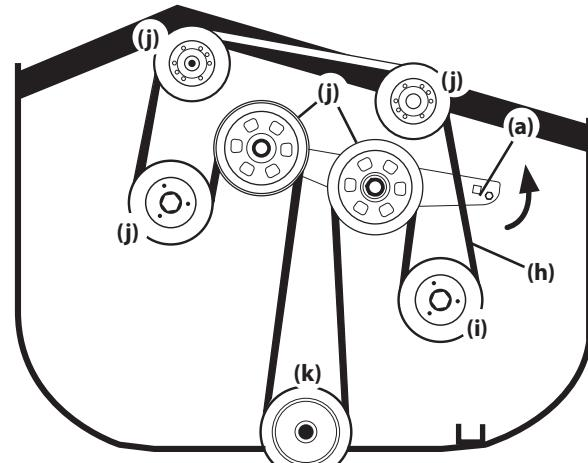

Figure 39
- Using a 1/2" (12.7 mm) drive in the idler pulley bracket (g), turn the wrench towards the front of the mower and slide the PTO drive belt (h) off the right spindle pulley (i) (Figure 39).